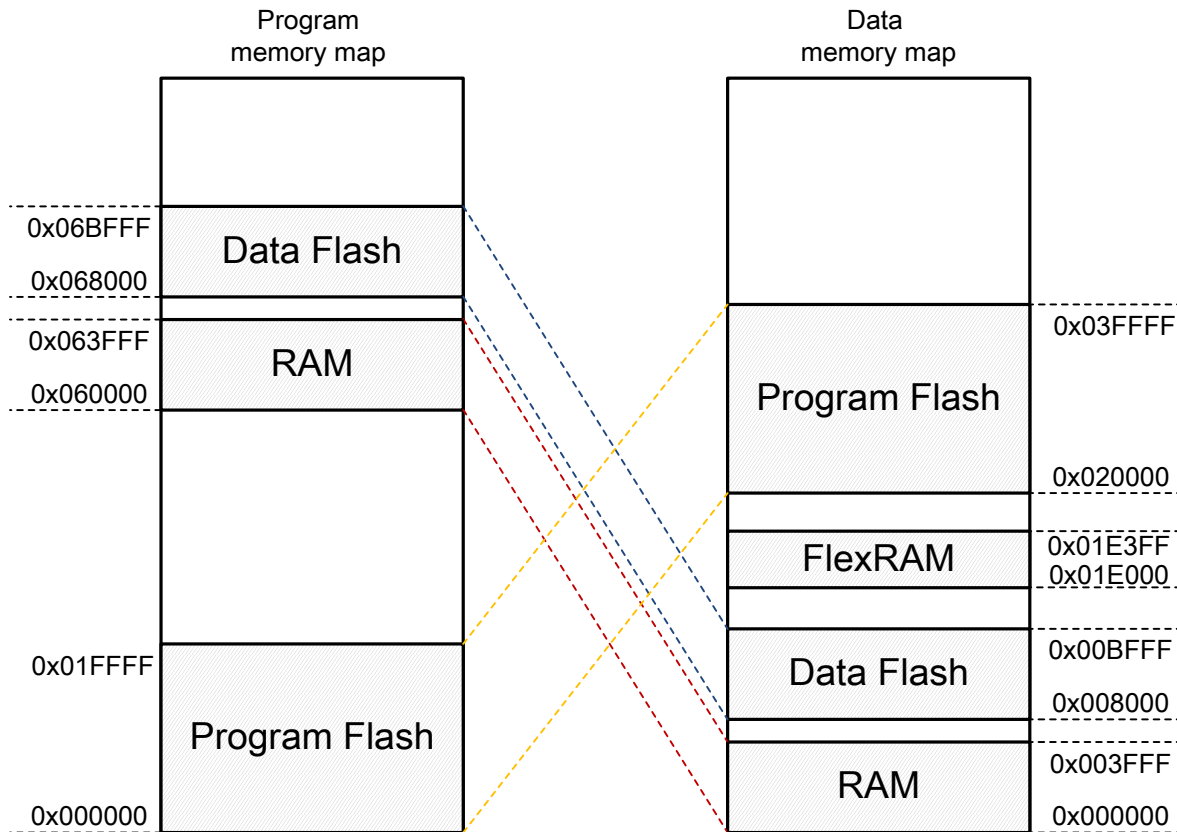

Figure 1. Memory map in MC56F84789 DSC
It is essential to know the detailed memory map on the MC56F84789 MCU. This information can be found in Chapter 4 “Memory Map” of *MC56F847XXRM: MC56F847xx Reference Manual*, available on [freescale.com](http://www.freescale.com). As for MC56F84789, there are two pieces of flash memories and two pieces of RAMs inside the chip. Both the flash memories and one of the RAMs can be accessed through program memory buses and data memory buses. This means that each of them has two sets of addresses that are mapped into program memory and data memory. Figure 1 shows the exact memory map of MC56F84789 MCU.
- It can be used to store variables with constant values since it is also mapped into data memory as indicated in Figure 1.